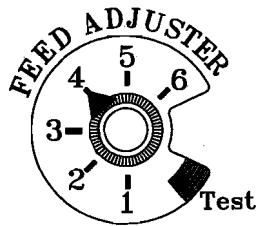

Fig. 26
4. Adjust Feed Rate. If this is your first fire or you are trying different pellets, set the feed adjuster to #4, Fig. 26. This is a conservative number and will probably need to be increased. After you know a feed rate setting that works well, use that setting. Remember, if your feed rate is too high you may waste fuel.